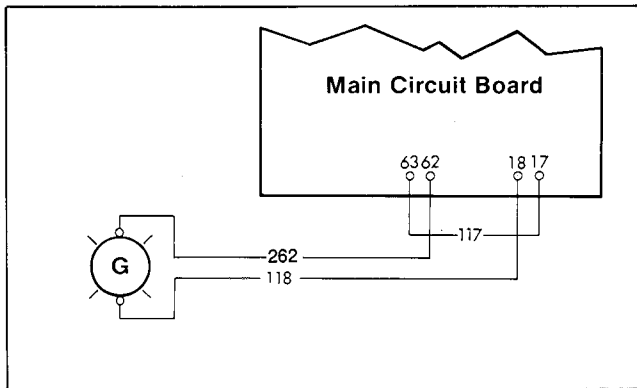

Figure 20. 12-A, C Connections
All panel lamps if furnished, are mounted on the Transfer Switch enclosure door or shipped loose as specified. See Figures 20 thru 23 for connections.
- **Acc. 12-A, C Normal Position**, light to show transfer switch connected to normal source. See Figure 20 for connections.